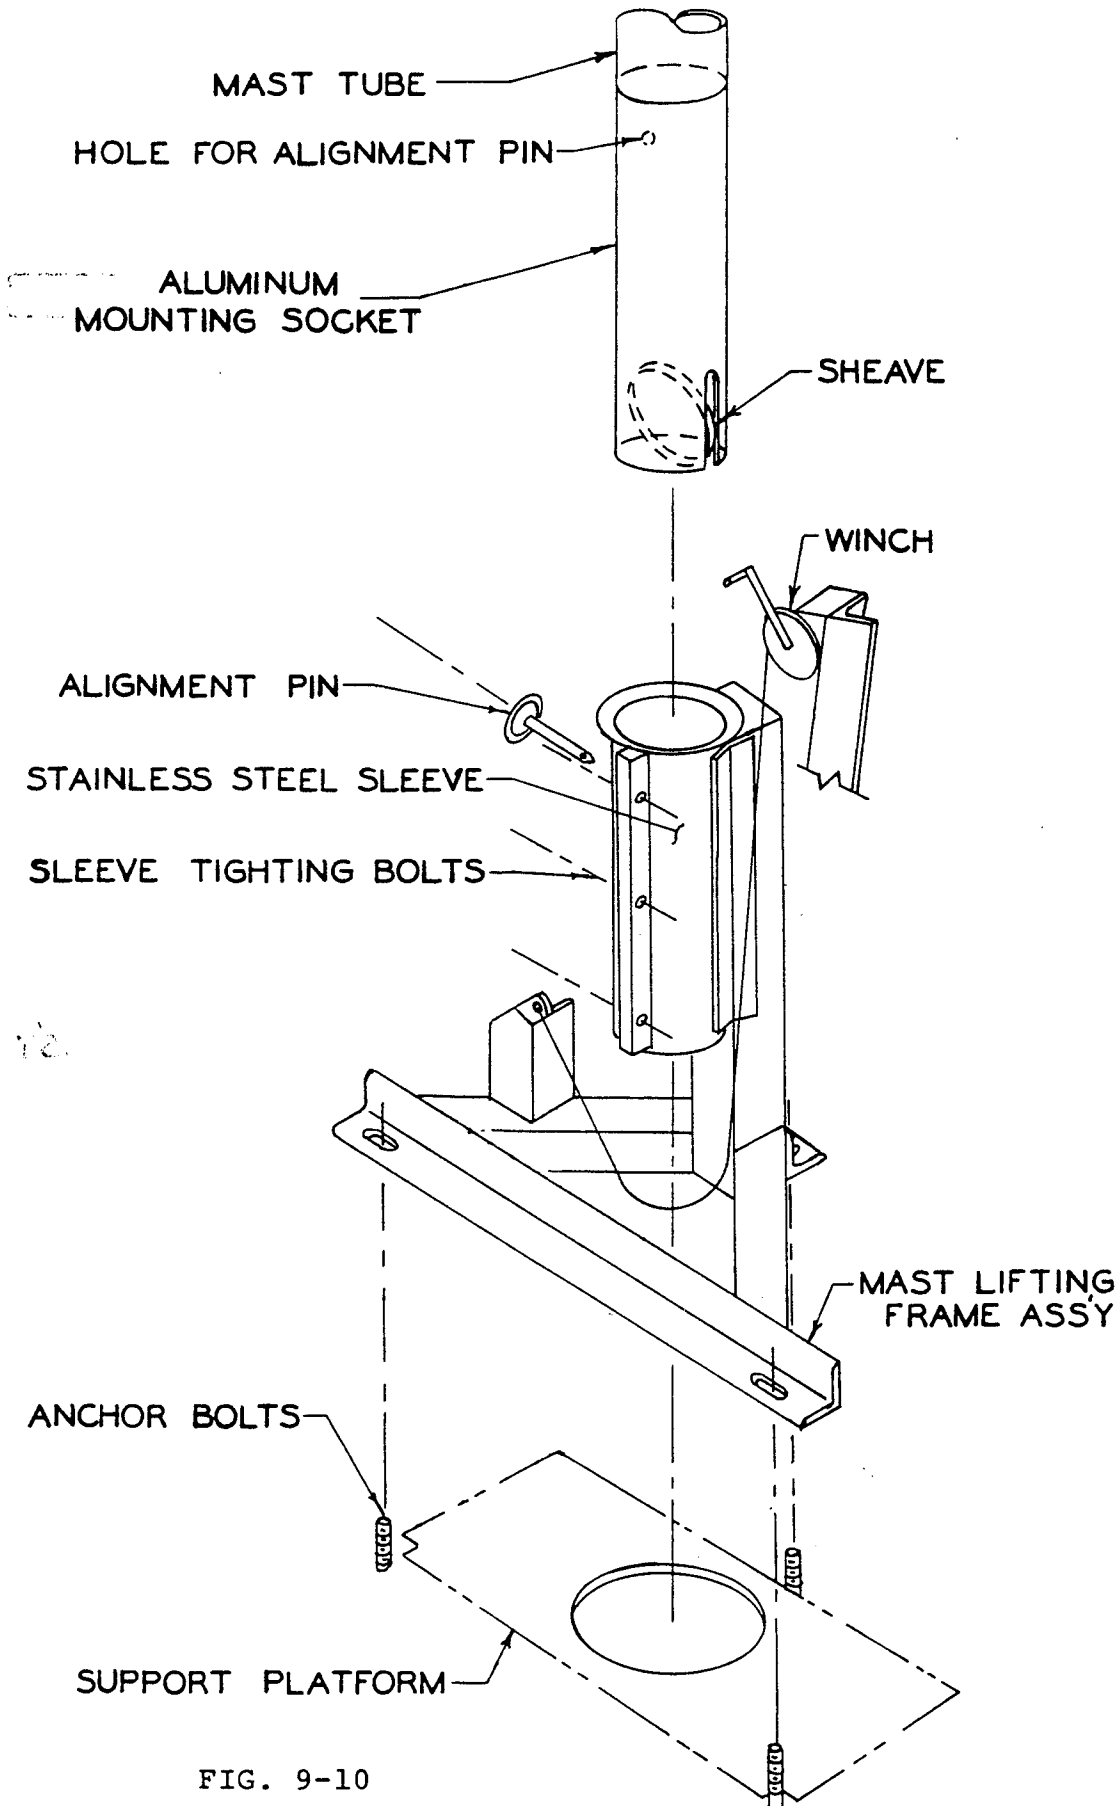

FIG. 9-10
- A. Mount mast lifting frame on anchor bolts located on support platform (See Fig. 9-10) and secure with three 3/4" hex nuts.
- C. Expand stainless steel sleeve on mast lifting frame (See Fig. 9-10) by loosening the 1/2" nuts on the sleeve flange. Insert mast tube into sleeve, sheave end first, until sheave end protrudes from bottom of sleeve by about one foot. Engage winch cable to sheave and lower mast tube to its lowest point, but releasing rope from winch.